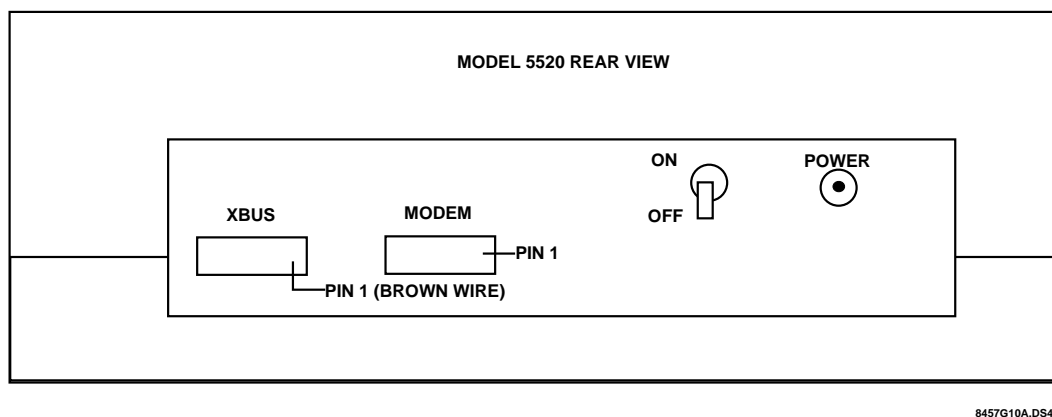

Figure 4: Connecting the Cable to the Programmer
2. Connect one end of the 12-wire double ended cable (provided) to the XBUS connector on the programmer (see Figure 4). The XBUS wires should extend down from the connector slot.